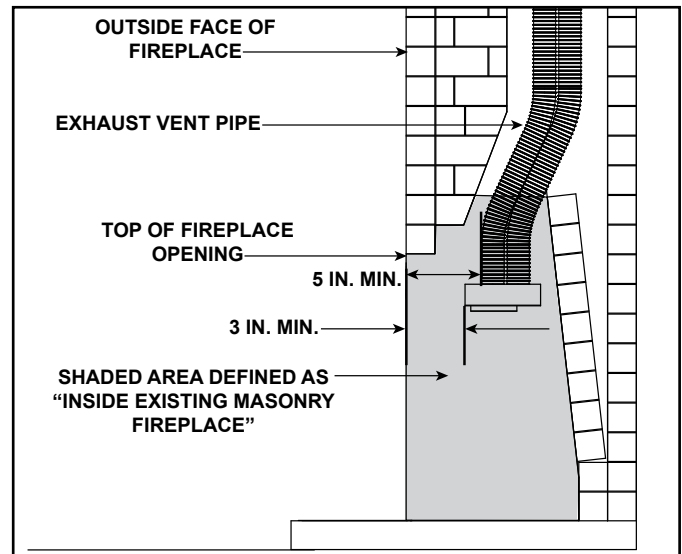

Figure 4.27 Existing Fireplace DV-46DVA-GCL Clearance Requirements
- Remove the rear seal cap and insulation if equipped. Connect the DVP-2SL adapter to the vertically positioned elbow. Follow installation instructions included with DVP-2SL kit. Secure DV-46DVA-GCL adapter to DVP-2SL with 3-1/2 in. self-tapping screws. See Figure 4.27.
The DV-46DVA-GCL adapter must be recessed into existing masonry fireplace. This measurement is taken from the top of the fireplace opening. See Table 1 and Figure 4.27.